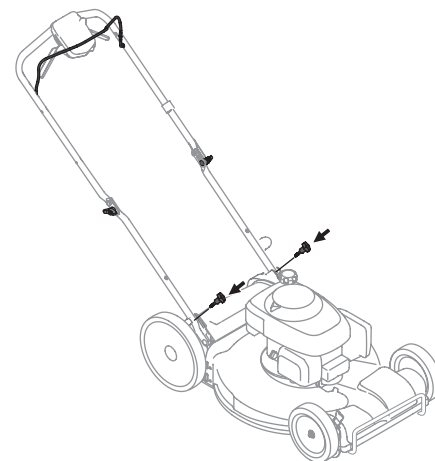

Figure 2-3
6. Using the T-bolts (a) removed in Step 2, secure the handle to the handle brackets as shown in Figure 2-3.